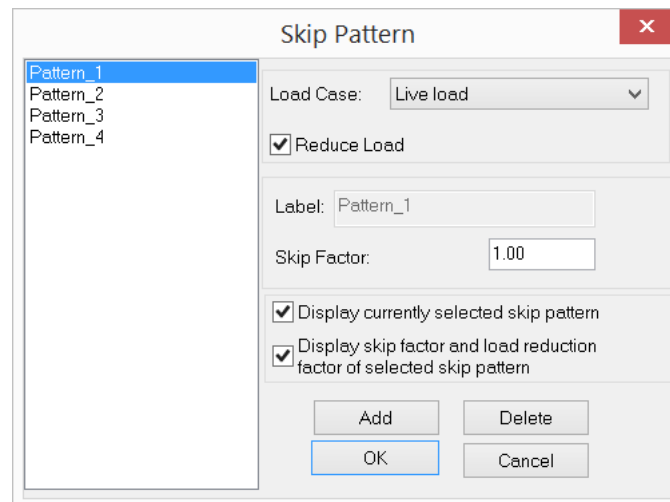

Figure 7.2-4 - Skip Pattern Selection
- Define a skip factor, and/or request reduction of live loading through the dialog box of **Fig. 7.2-4**.